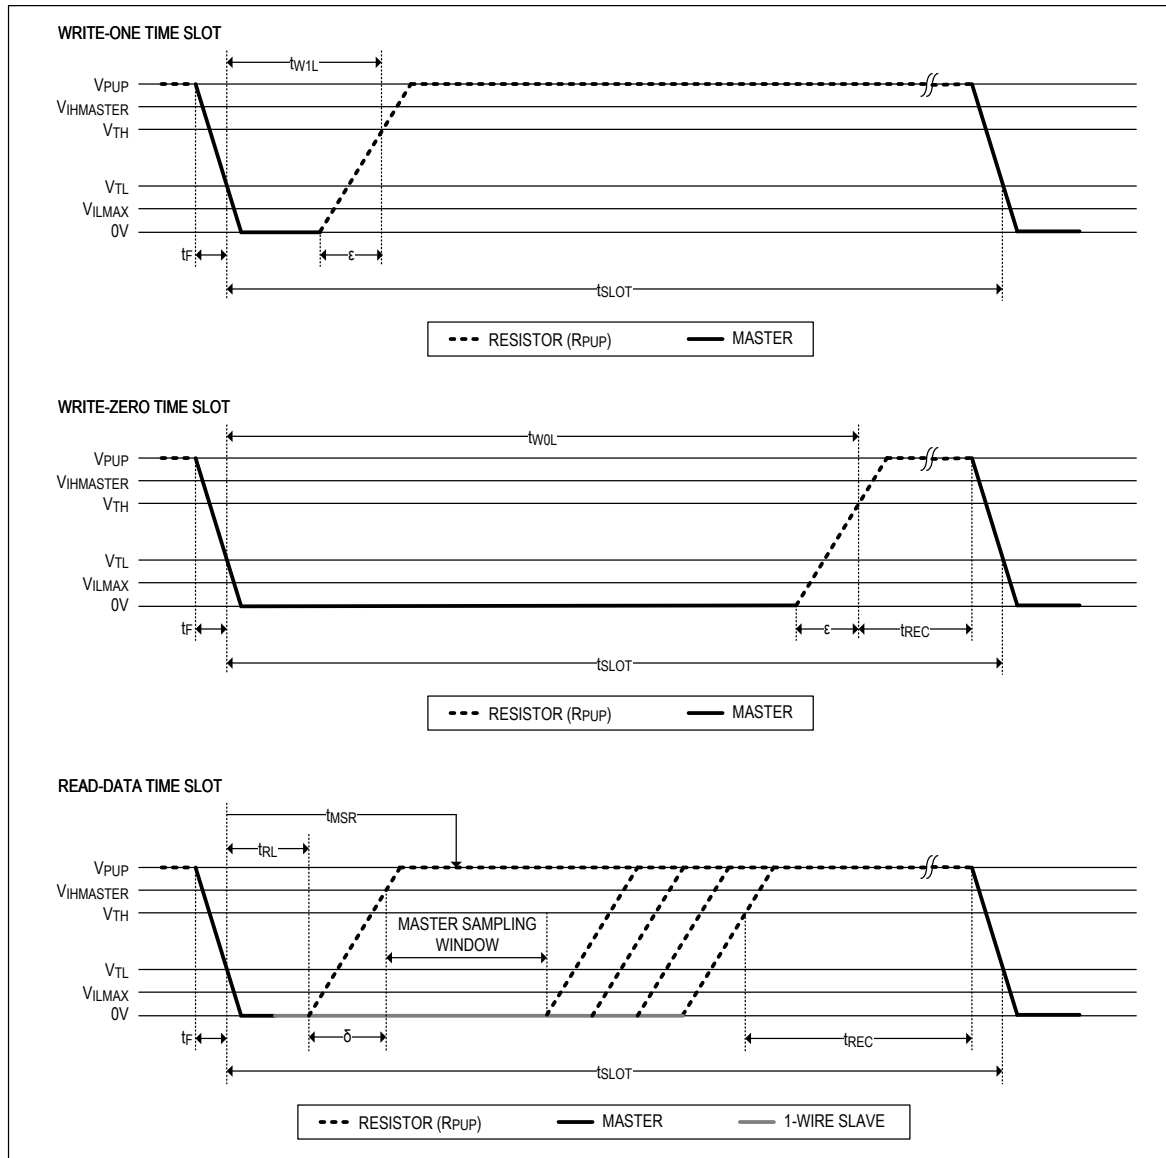

Figure 6. 1-Wire Read/Write Timing Diagrams
**Note 18:**  $\epsilon$  in Figure 6 represents the time required for the pullup circuitry to pull the voltage on IO up from  $V_{\text{IL}}$  to  $V_{\text{TH}}$ . The actual maximum duration for the master to pull the line low is  $t_{\text{W1LMAX}} + t_{\text{F}} - \epsilon$  and  $t_{\text{W0LMAX}} + t_{\text{F}} - \epsilon$ , respectively.
**Note 19:**  $\delta$  in Figure 6 represents the time required for the pullup circuitry to pull the voltage on IO up from  $V_{\text{IL}}$  to the input-high threshold of the bus master. The actual maximum duration for the master to pull the line low is  $t_{\text{RLMAX}} + t_{\text{F}}$ .
Data communication on the 1-Wire bus takes place in time slots that carry a single bit each. Write time slots transport data from 1-Wire master to a connected slave. Read time slots transfer data from slave to the 1-Wire master. Figure 6 illustrates the definitions of the write and read time slots.